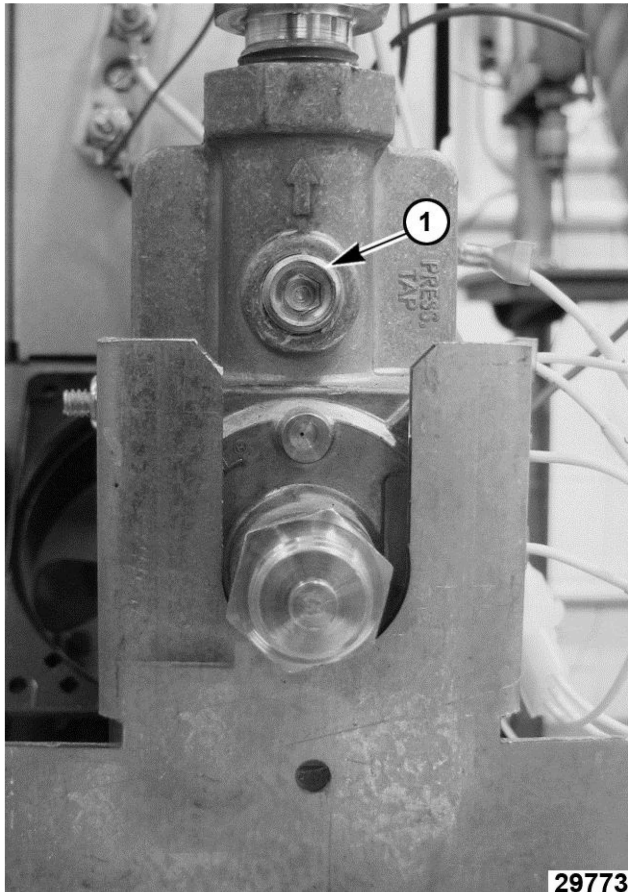

Fig. 48
- Remove plug from manifold pressure port (1, Fig. 48).